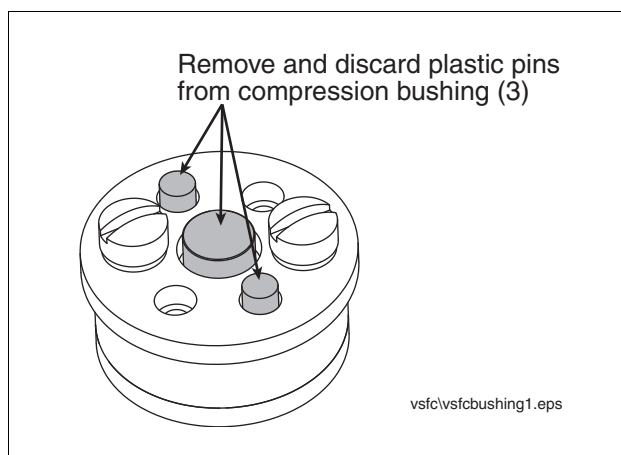

Figure 16. Compression bushing
2. If necessary loosen the two screws in the top of the compression bushing until you can lift it out of the manifold (see Figure 16).